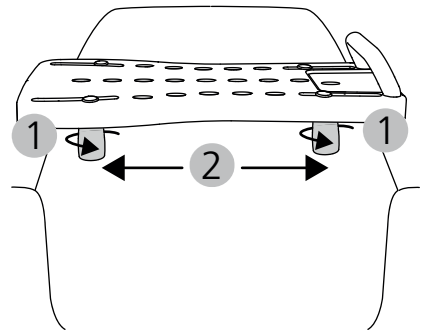

Abb. 3
1. Release the clamping pins on the underside of the bath board (do not unscrew completely) (Fig. 3, 1).
3. Push the clamping pins uniformly against the inner rim of the tub (Fig. 3, 2) and tighten them firmly.